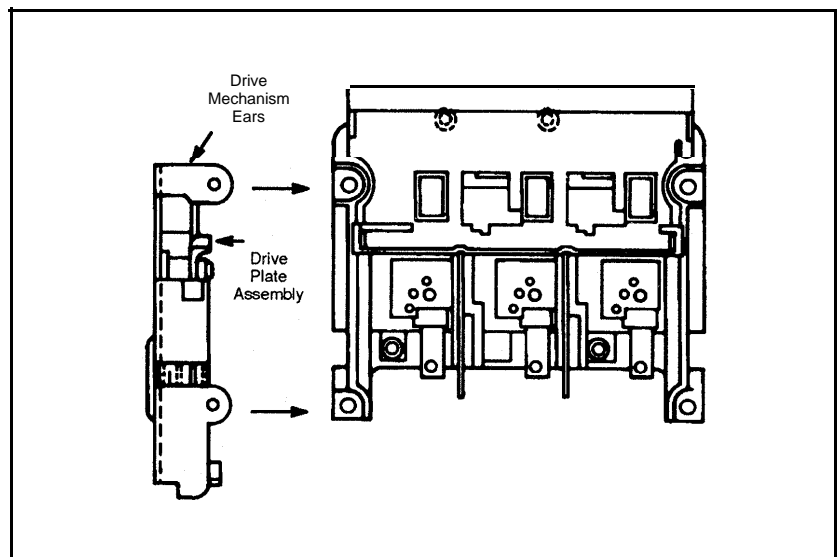

Figure 11
5. Position the drive mechanism as shown in Figure 11.
**NOTE:** Do not attempt to change the position of the drive plate assembly on the drive mechanism (Figure 11).